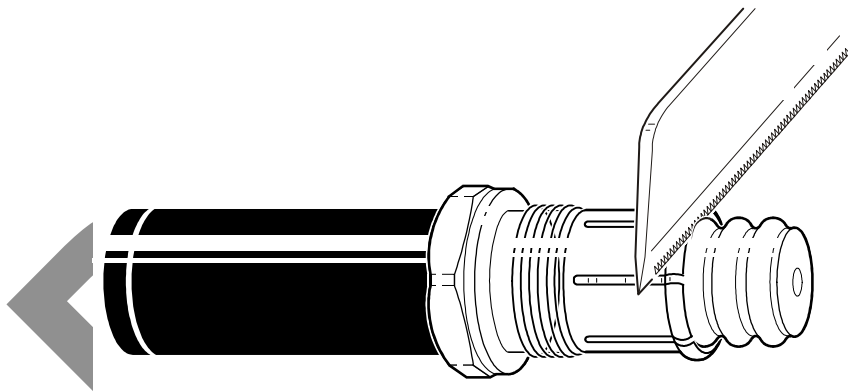

Figure 59 – Cutting the outer conductor
1. Use a fine-tooth saw to cut through the outer conductor flush with the clamping nut fingers. Do not cut deeper than the outer conductor, and make sure that the cut is made along the entire circumference where the clamping nut fingers meet the outer conductor; see *Figure 59*.